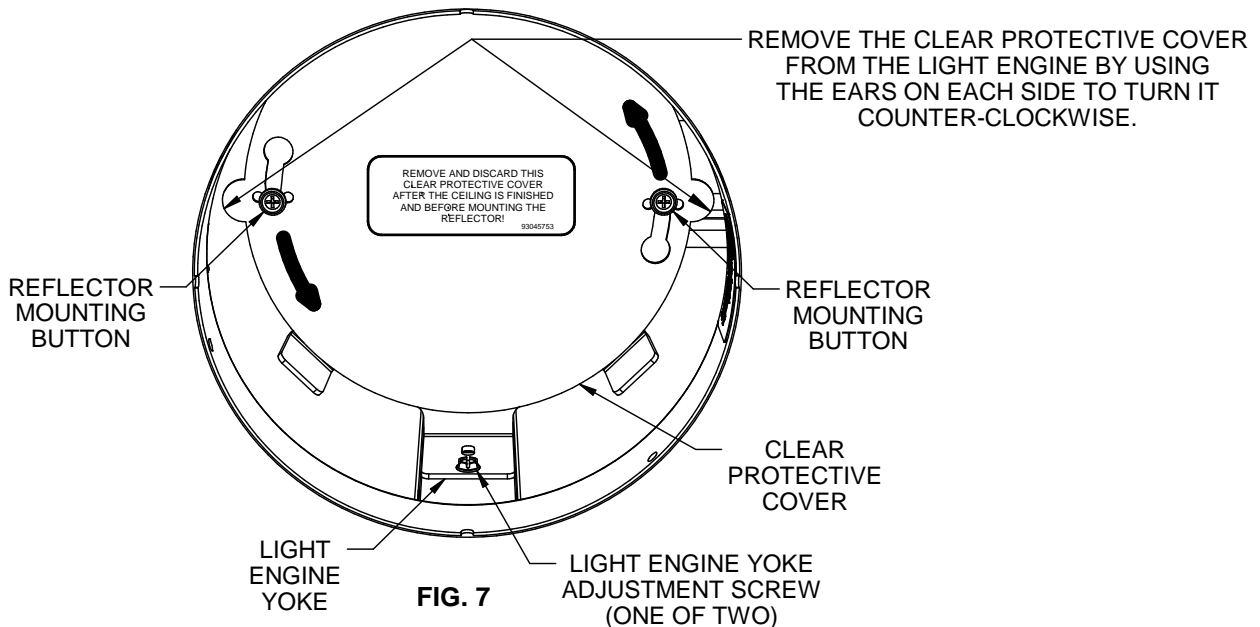

FIG. 7
- After all ceiling installation and finishing work is complete, and before installing the reflector, remove the clear protective cover from the light engine by rotating it counter-clockwise to unlock it, and then remove it from the reflector mounting buttons. (See **FIG. 7**) This cover can be kept to protect the LEDs if future ceiling refinishing is ever needed, or discarded (please recycle – it is made of polycarbonate plastic).